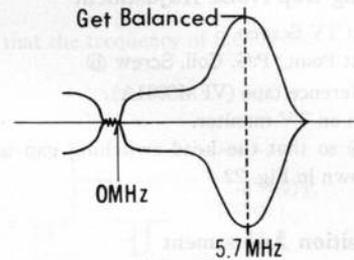

Fig. 17
4. Adjust C530, R516, and R538 so that the peak frequency becomes 5.7MHz and the waveforms of both channels get balanced as shown in Fig. 17 when R546 is set to center.